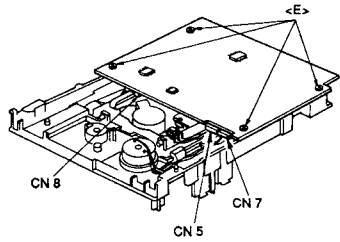

Figure 21
- (6) Turn the CD-ROM Drive Unit upside down and remove four screws <E> (2.6 × 8 mm) as shown in Figure 21.
- (7) Disconnect three connectors (CN 5, CN 7, CN 8) as shown in Figure 21.